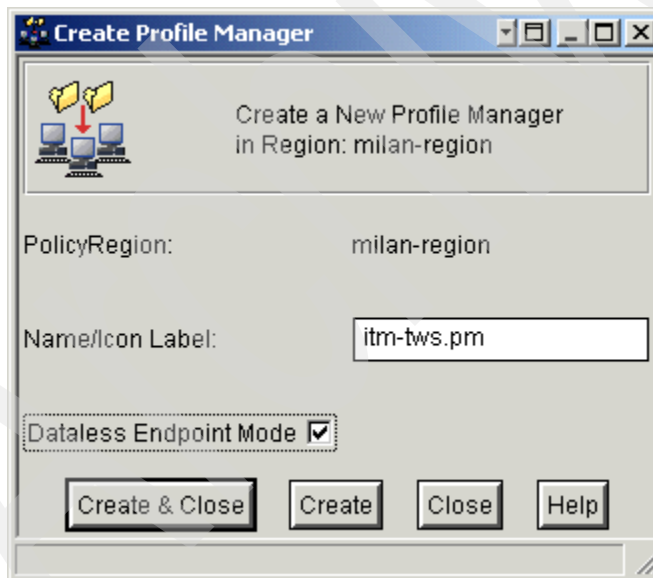

Figure 9-17 Naming the new profile manager
12. Enter a name for the profile manager in the Name/Icon Label text field, and select Dataless Endpoint Mode. In the lab for this book, we entered itm-tws.pm as shown in Figure 9-17.